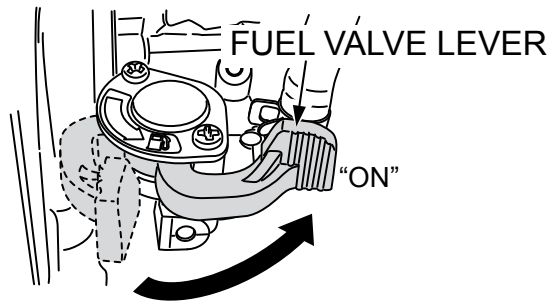

Figure 10. Fuel Valve Lever
1. Place the fuel valve lever (Figure 10) in the **ON** position.
- Place the Engine **ON/OFF** switch (Figure 10) in the **OFF** position.